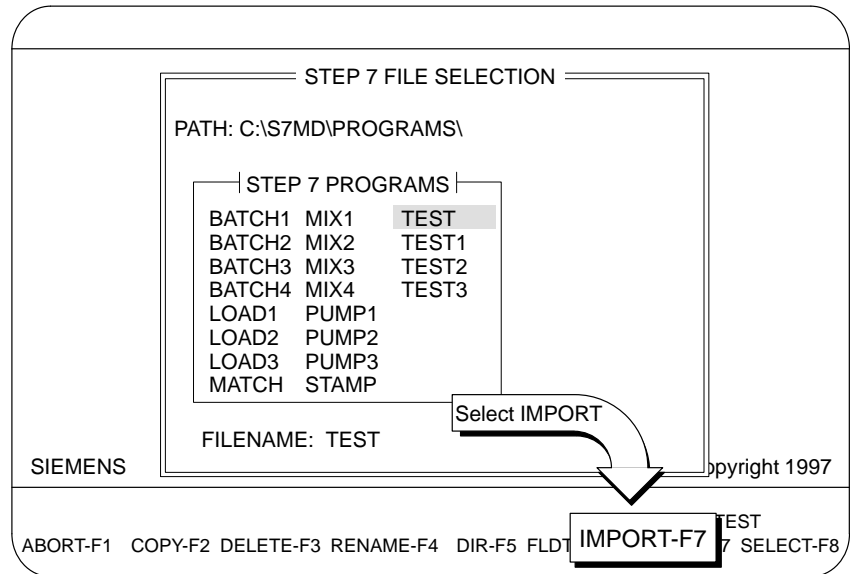

Figure 5-13 PGMS Program Selection Screen
2. Press **IMPORT-F7** to change the file selection screen from S7-200 program files to .AWL text files. See Figure 5-13.